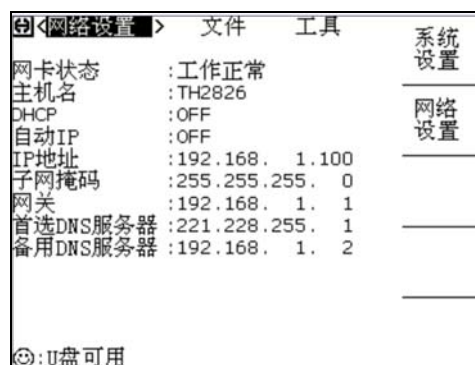

Figure 7-7
- (1) setup Internet Explorer.
- (2) input <http://192.168.1.100/> and press Enter.
- (3) the screen of Web server, shown as Figure 7-7.